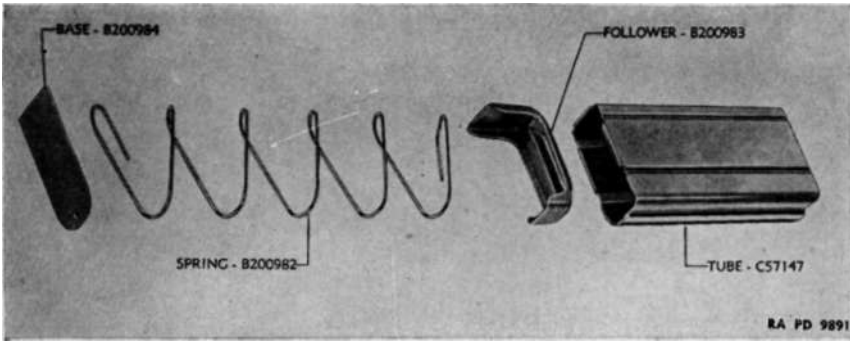

Figure 68. Magazine group.
59. Inspection (figs. 68 and 69).
c. Push follower to top of tube and insert magazine spring with long dimension to the rear as shown in figure 68. In this position the follower will slide evenly in the tube. Compress spring with thumb, and starting from the rounded edge of tube, insert the base, square end first, with projection of indent facing in, under retaining lips of tube. Push base in until projection catches on tube. Push follower down in tube and release to test smoothness of functioning. If follower does not reciprocate smoothly under spring action, tube or follower is distorted and should be corrected. (Magazine base of recent design is ribbed for stiffening. Ribs should face inward when base is assembled.)